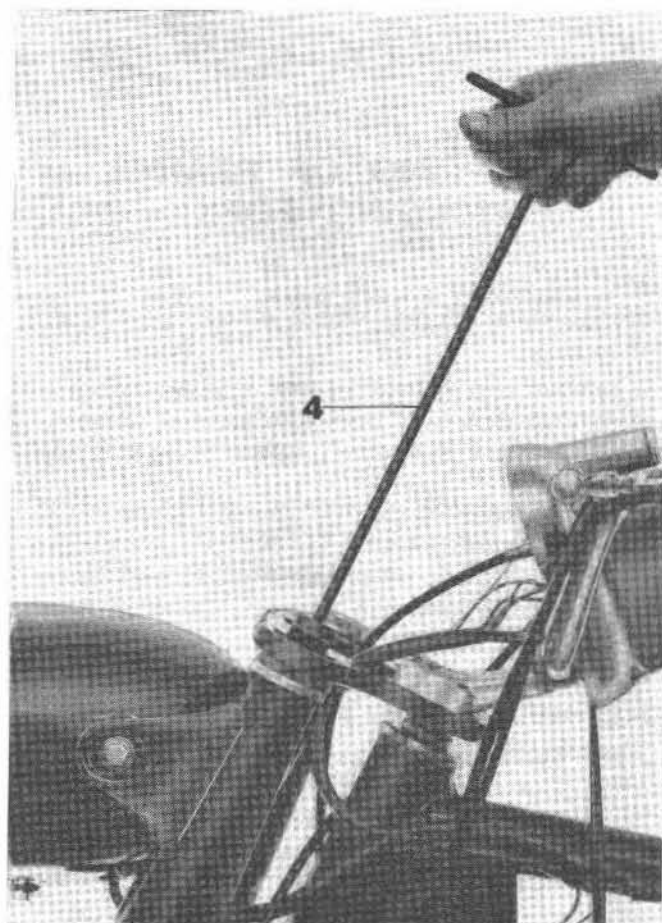

Fig. 101
- insert fork rod in bottom yoke and headlight bracket, positioning it by means of tool No. 12909500 previously connected to fork rod (see 4 on Fig. 101).